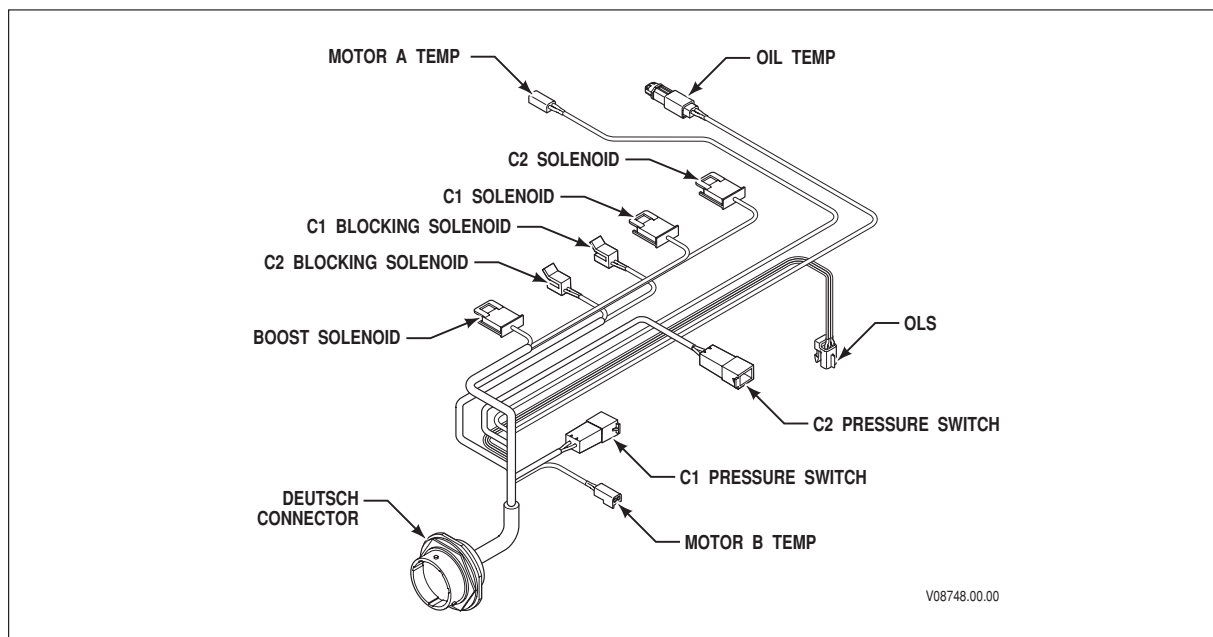

Figure 1–9. Typical Internal Wiring Harness
2. Internal Wiring Harness (Figure 1–9)